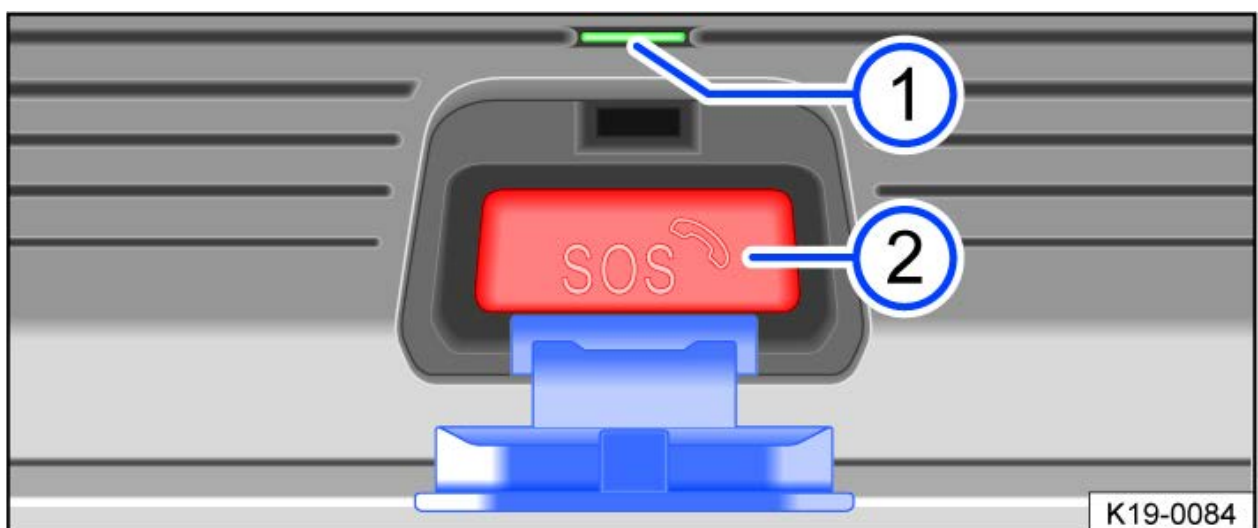

Fig. 2 Emergency call control: Indicator light and button.
There is an indicator light → *fig. 2* (1) in the control. The indicator light turns on in different colors and light patterns depending on the system status:
— Press and hold the emergency call button → *fig. 2* (2) for a few seconds. The emergency call will be triggered and a call will be made to a local emergency dispatch center.